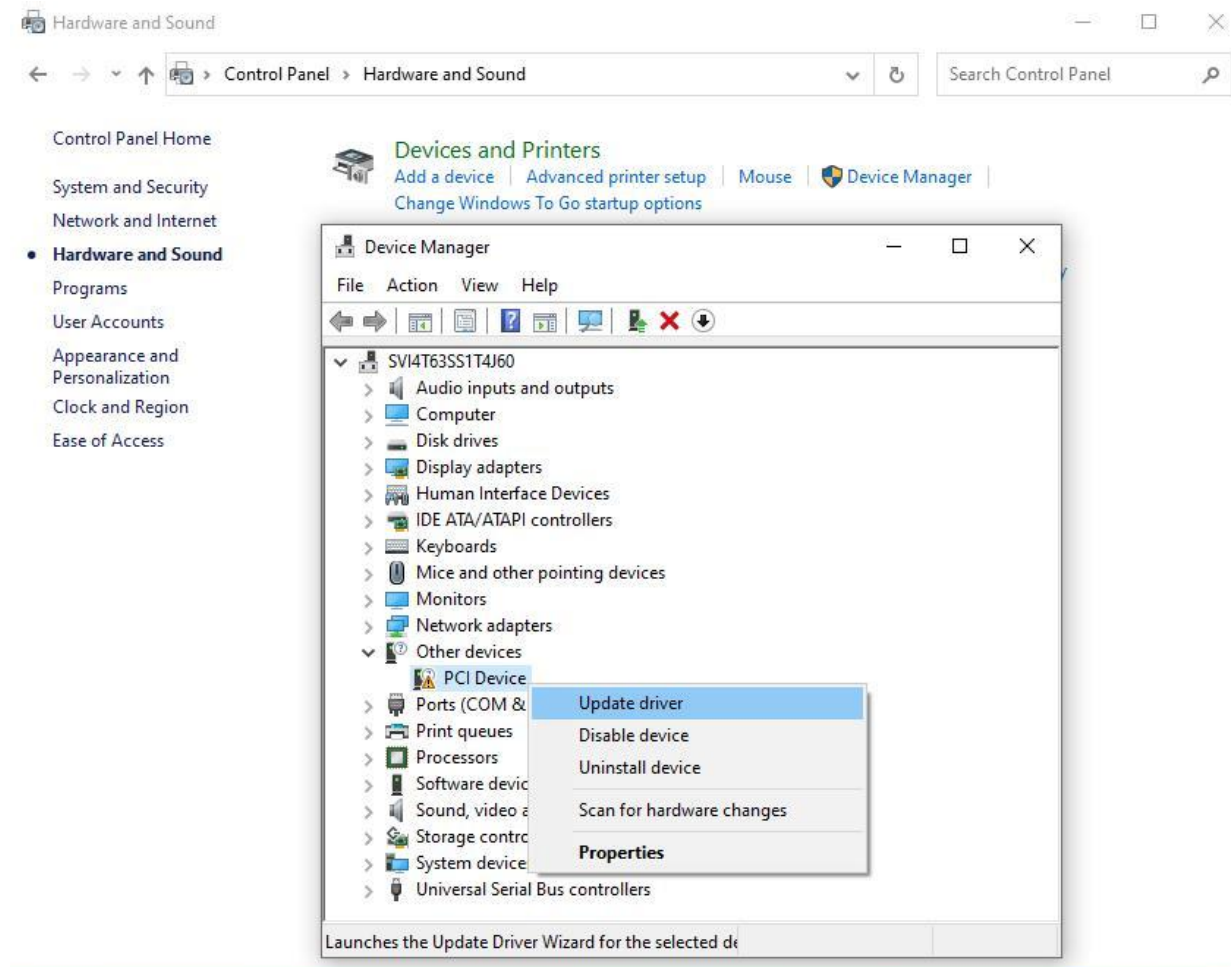

Figure 6-3 Screenshot of launching Update Driver Software... dialog
7. Click Control Panel menu from Windows Start menu. Click Hardware and Sound item before clicking the Device Manager to launch the Device Manager dialog. There will be a PCI Device item in the dialog, as shown in **Figure 6-3**. Move the mouse cursor to the PCI Device item and right click it to select the **Update Driver Software...** item.